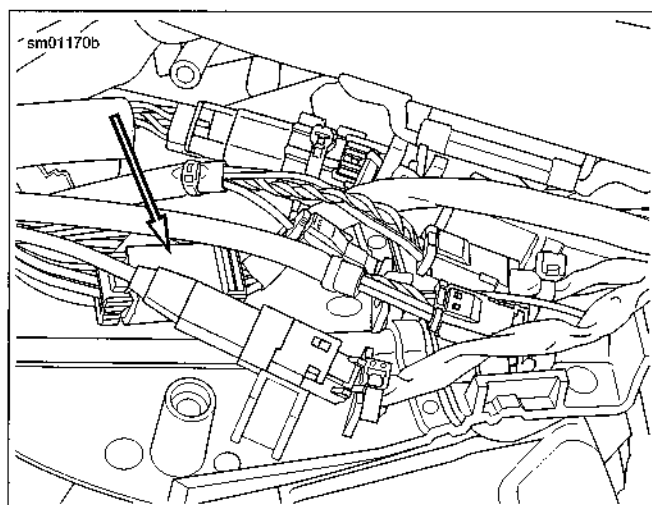

Figure 6-60. Turn Signal Connector [31]
5. See Figure 6-60. Locate turn signal connector [31] mounted on right wire harness caddy. Press latch. Separate connector halves.